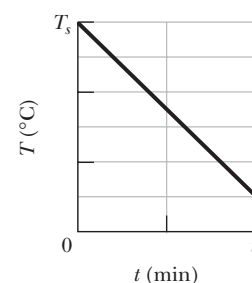

Figure 18-52 Problem 71.
**71** A  $0.300\text{ kg}$  sample is placed in a cooling apparatus that removes energy as heat at a constant rate of  $2.81\text{ W}$ . Figure 18-52 gives the temperature  $T$  of the sam-